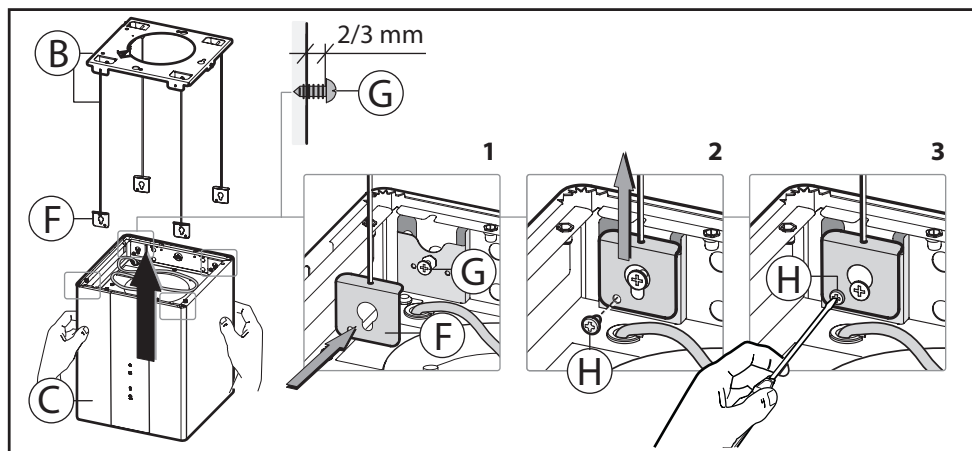

Fig.4
- Couple the hood body **C** and the structure **B** in correspondence of the 4 slots **F** and the four screws **G** (not completely tightened) figure 4 - phase 1.
- Rest the hood body on the 4 slots figure 4 - phase 2
- Tighten the 4 screws **G** and fasten the structure permanently **B** to the hood **C** with the 4 safety screws **H** figure 4 - phase 3.